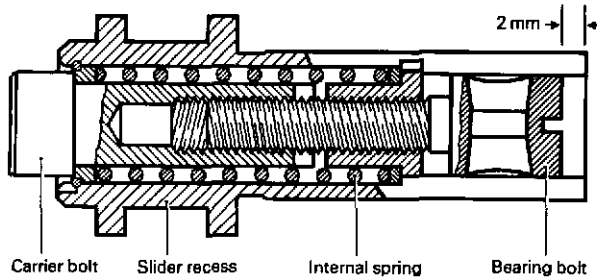
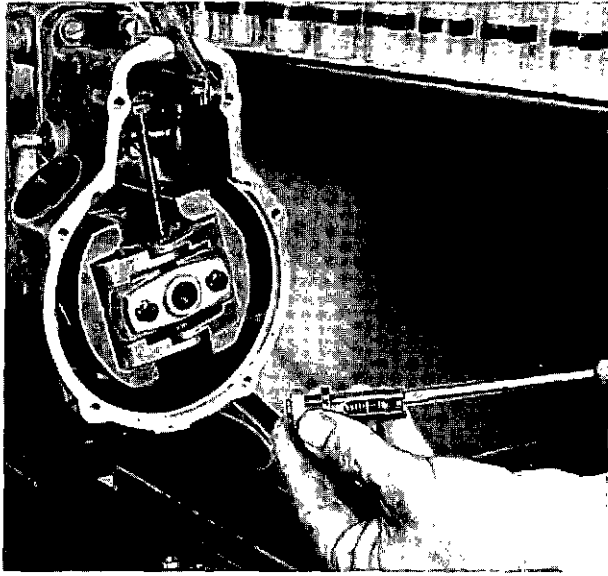

Fig. 48 Adjusting pin - sectioned.
Fig. 50 Adjusting pin and coupling bolt.
This pin (fig. 48) connects the flyweight coupling to the slider in the governor hub. Check that its spring and bearing surfaces are serviceable. The setting of the pin should not be disturbed unnecessarily but if adjustment is unavoidable it should be carried out as described later, under 'ASSEMBLING' and also in Part 4, Stage 'B'.
3. Check that the internal spring of the adjusting pin (fig. 48) has no end play and yet is not compressed. Adjust, if necessary, by turning the castellated carrier bolt relative to the eyed bearing bolt at the opposite end. Finally, set the bearing bolt 2 mm. below the end face of the adjusting bush, as shown, and assemble the adjusting pin to the guide bush bore, securing it by temporarily fitting the coupling bolt (fig. 50), which passes through the eye of the bearing bolt.
4. Pull the adjusting pin rearwards sufficiently to draw the flyweights inwards, but without exerting excessive load on the internal spring of the pin. In this position the measuring gauge 1 682 329 038 should fit snugly into the slider recess of the adjusting pin (figs. 48 and 51). Adjust, if necessary, by means of the bearing bolt in the adjusting pin, as shown in fig. 50.